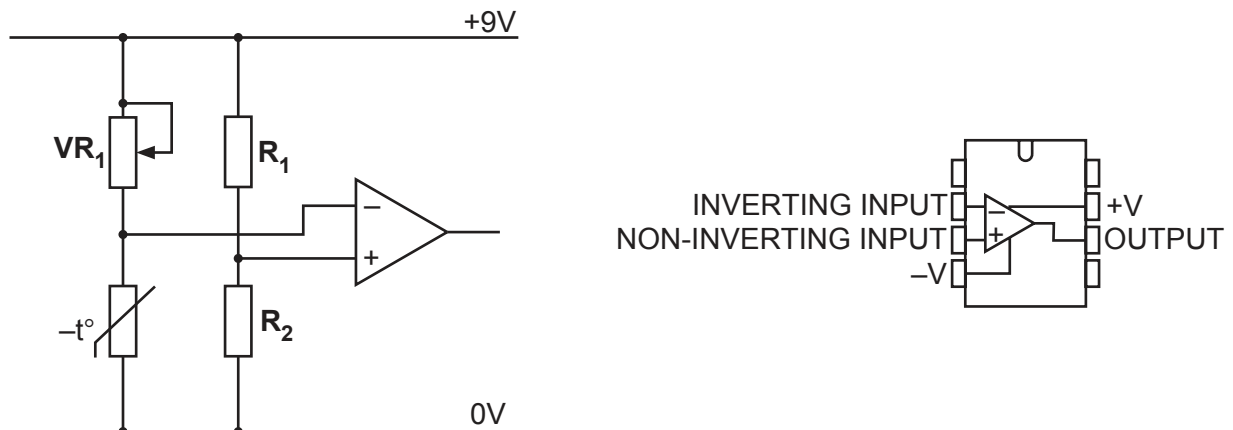

Fig. 12.3
- (ii) Fig. 12.3 shows the temperature sensing circuit, which uses an operational amplifier (OP AMP) to compare two voltages.
- (iii) R_1 and R_2 in Fig. 12.3 form a potential divider which is connected to pin 3 of the OP AMP.